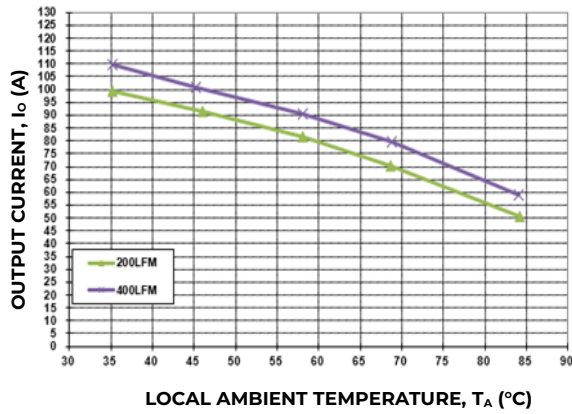

Figure 15. Output Current Derating for the Base Plate QBDS125A10R4-H; Airflow Direction for Vout to Vin(Worst) orientation; Vin = 50V.
Increased airflow over the module enhances the heat transfer via convection. The thermal derating of figure 15– 18 shows the maximum output current that can be delivered by each module in the indicated orientation without exceeding the maximum TH1 temperature versus local ambient temperature (TA) for several air flow conditions.